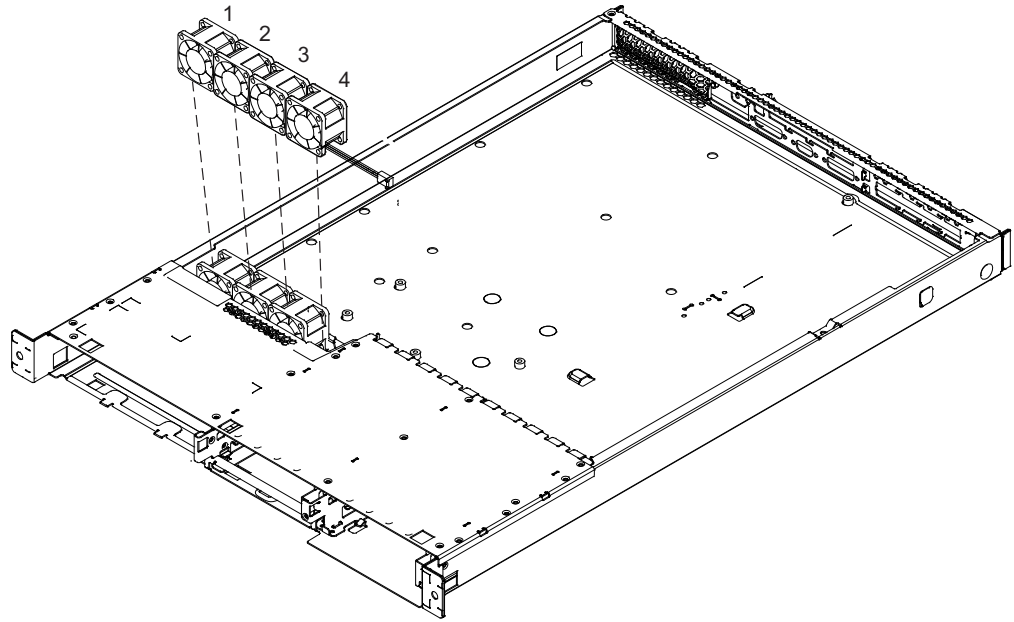

Figure 182. Replacing a microprocessor fan
1. Push the fan downward into the retaining clip. See Figure 182 on page 455.
Note: The fans are numbered from one to four, from left to right. See Figure 182.